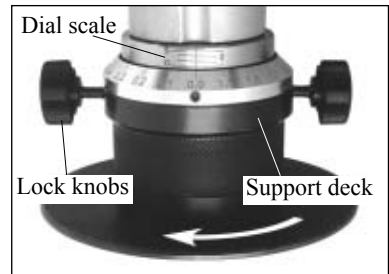

Fig.2
3. retighten the 2 lock knobs. See fig.2